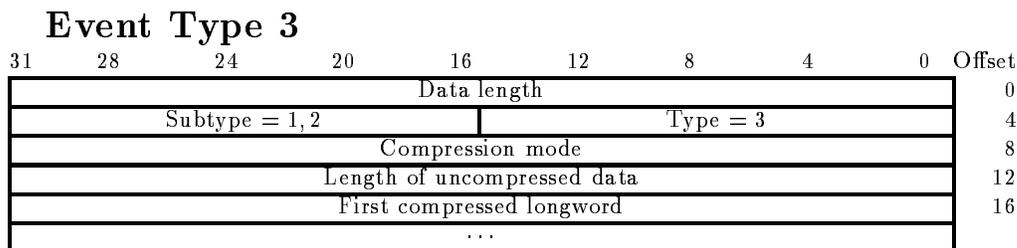

Figure C.6: Event structure type 3 (compressed)
Figure C.6 shows the event structure of type 3. Behind the header there follows one Data Element which is compressed. Two compress modes are supported. One adds a BIT(32) longword for each 32 Longwords. Zero longwords are suppressed and marked in the bitstring. The other adds counter longwords containing the number of following zero or nonzero longwords. **These buffer elements are longword aligned!**